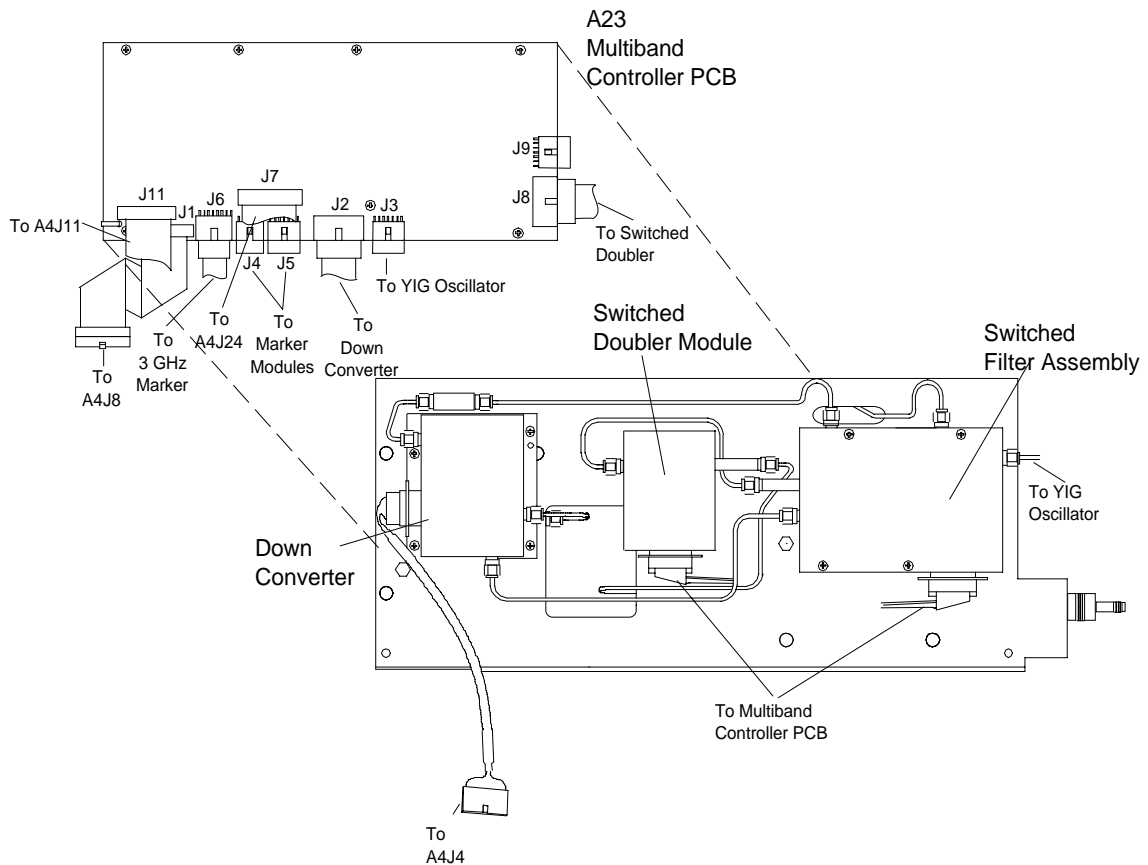

Figure 7-19. Models 54154A through 54169A RF Deck Parts Location (Internal Side Detail)
- Step 1.*** Remove the marker connection from A23J5 on the Multiband Controller PCB (Figure 7-19).
- Step 1.*** Remove the connection from A23J4 on the Multiband Controller PCB (Figure 7-19).
Step 2. Remove the Switched Filter (See Figure 7-19 and procedure on next page).